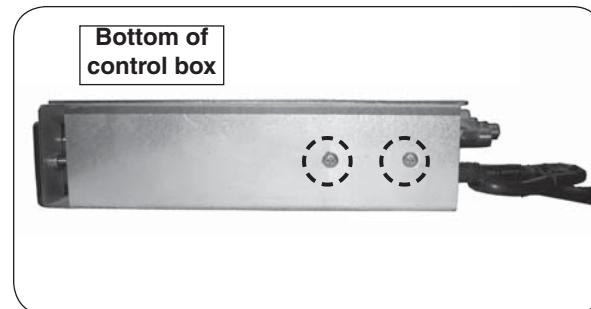

Fig. 1-2 Locate screws
2. Locate the 2 screws found on the bottom of the control box (which secure the pilot thermostat in place). See Fig. 1-2.